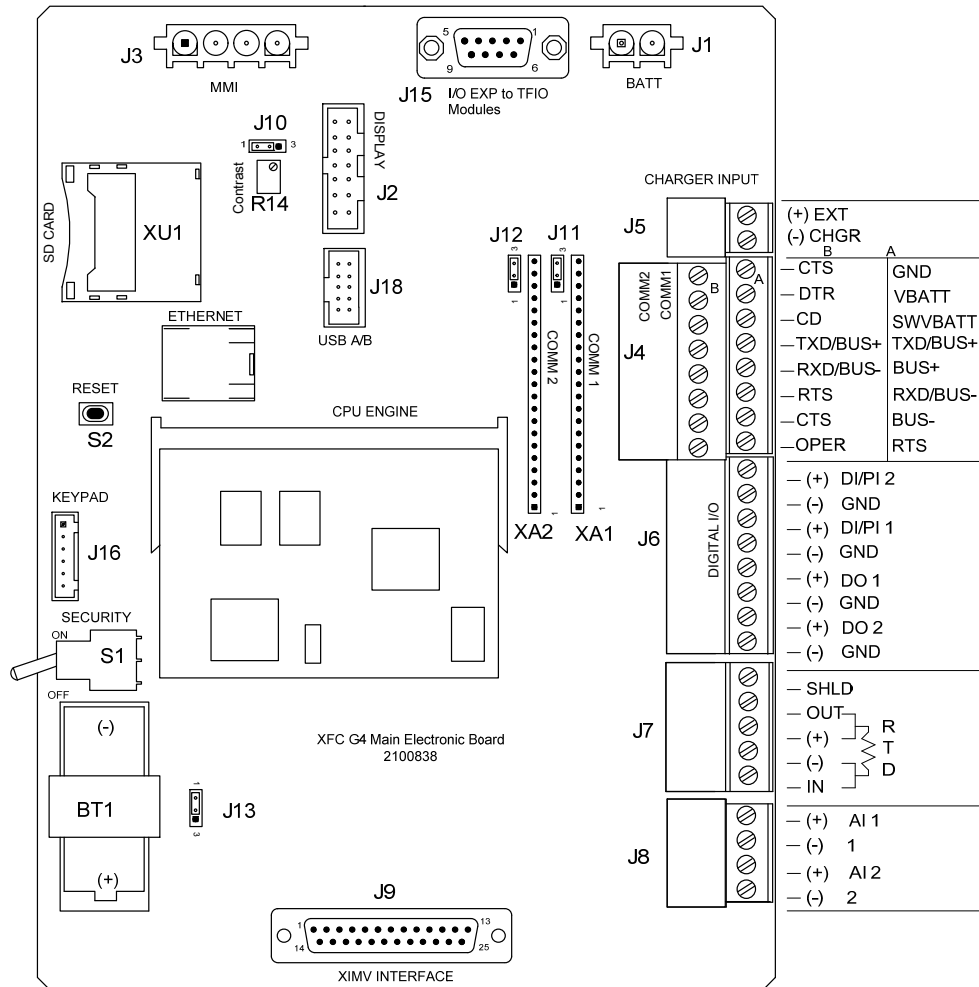
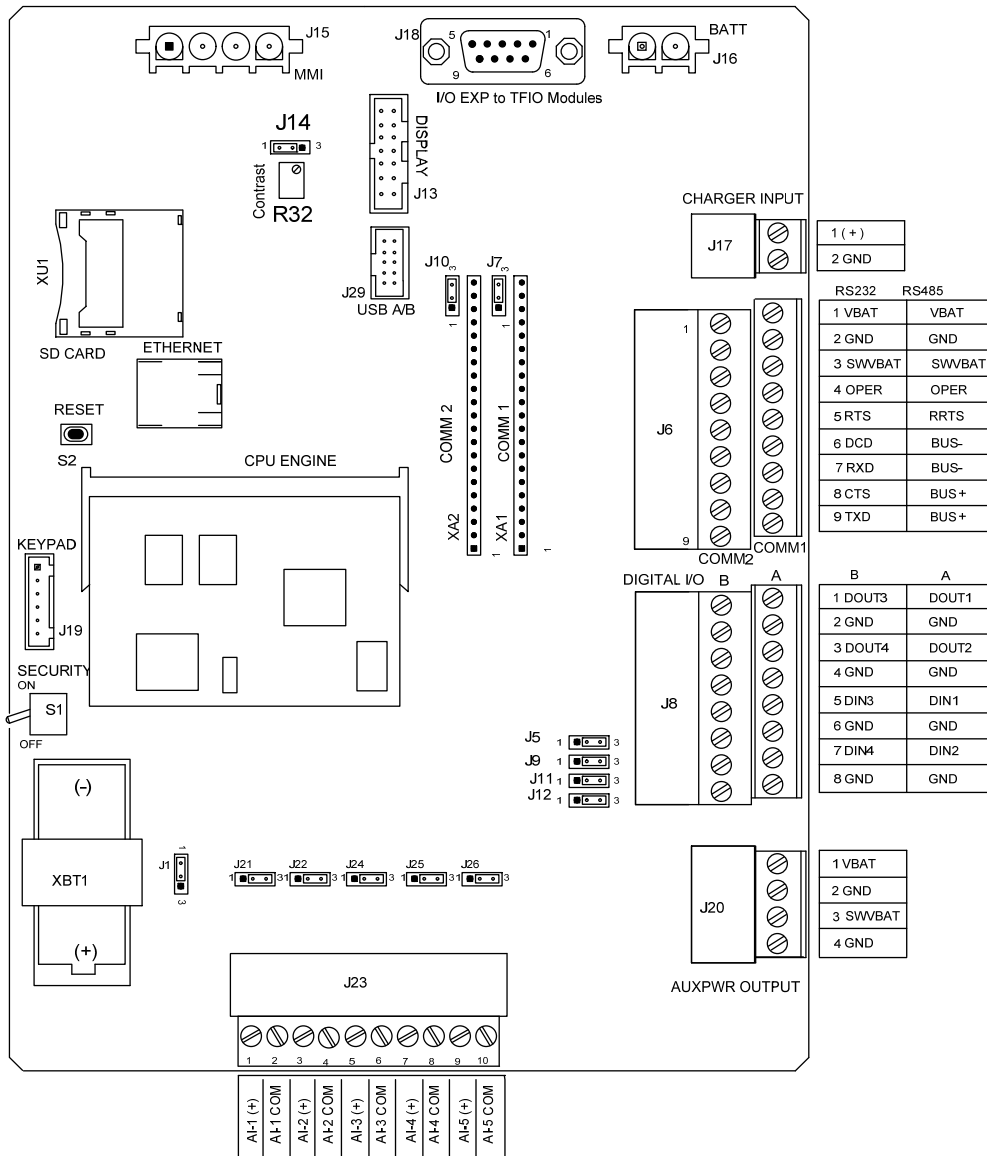

Figure 1 XFC^{G4} Main Electronic Board
Figure 2 XRC^{G4} Main Electronic Board
- 1) If used, disconnect the external charging source; J5 on the XFC^{G4} board (see Figure 1) or J17 on the XRC^{G4} board (see Figure 2).